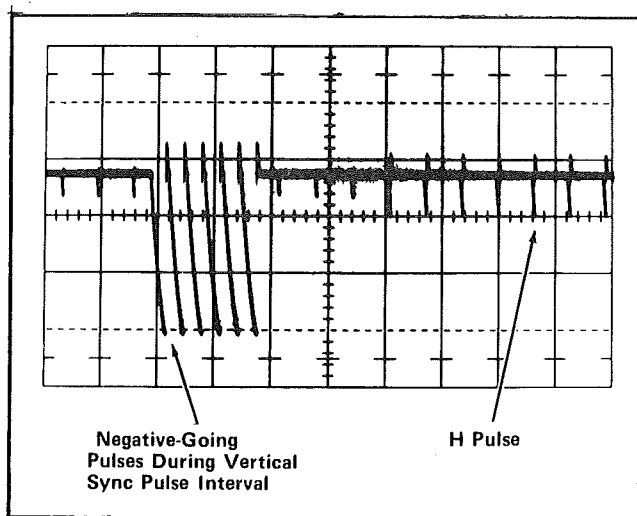

Fig. 1. Normal 525/60 waveform at TP926. Vertical deflection factor is 2 V/div; time/div is 50 μ s.
b. Adjust the Clipping Level control R914 by rotating the control fully clockwise. Then, rotate the control counterclockwise until one or more negative-going pulses in a group are displayed on the test oscilloscope during the vertical sync pulse interval. The exact number of pulses is dependent on the television standard of the composite video signal being applied to the vertical plug-in unit. Fig. 1 shows a normal display obtained for the 525/60 television standard. The pulse amplitude is approximately 4 volts negative below the H pulses. If R914 is improperly adjusted, the H rate trigger will not be normal during the vertical sync pulse interval.